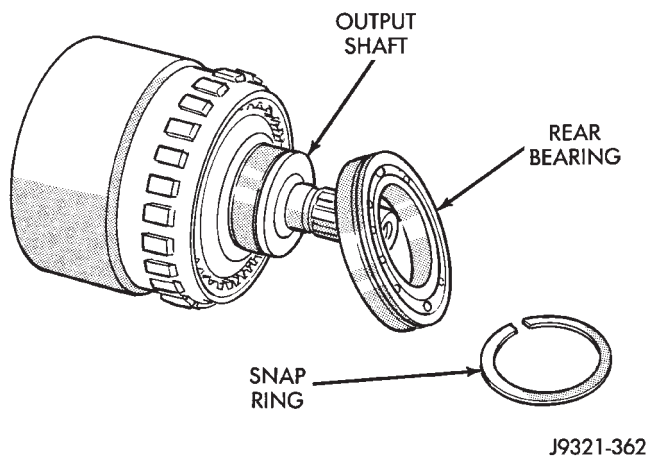

Fig. 206 Rear Bearing Removal
(7) Remove snap ring that retains rear bearing on output shaft.
(8) Remove rear bearing from output shaft (Fig. 206).